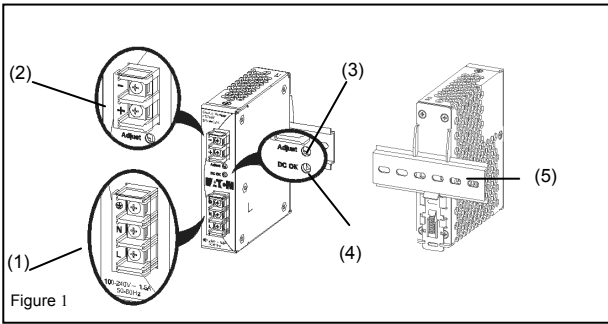
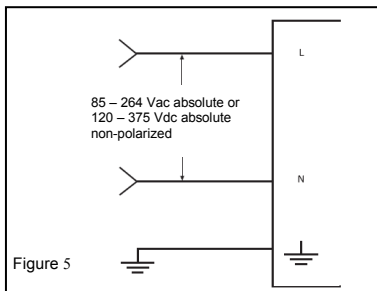

Figure 1
Figure 5
### 2. Device description (Fig. 1)
### 5.1. Input connection (Fig. 1 and Fig. 5)
Refer to Figure 5 for input connections.
### 5.2. Output connection (Fig. 1 (2))
Use the "+" and "-" screw connections to establish the 24 VDC connection. The output provides 24 VDC. The output voltage can be adjusted from 22 to 28 VDC on the potentiometer. The green LED DC OK displays correct function of the output (Fig. 1 (4)). The device has a short circuit and overload protection and an over voltage protection limited to 35 VDC.